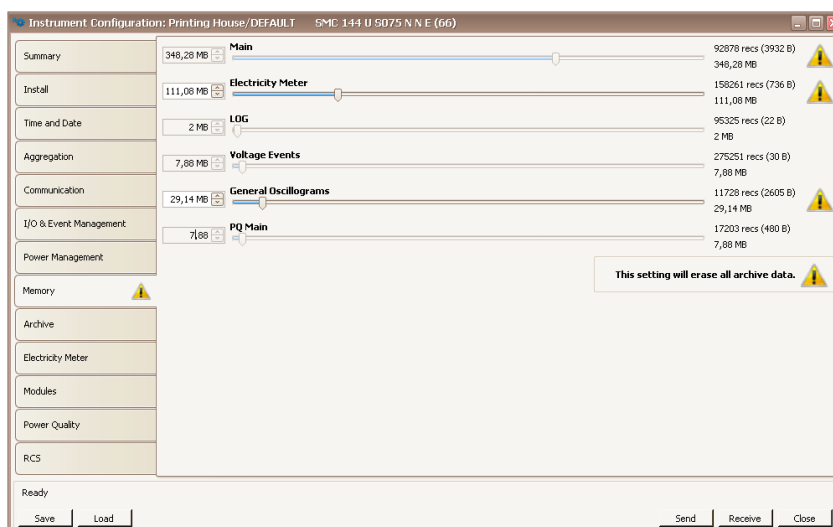

Figure 21: ENVIS.Daq - memory partitioning for each separate archive/data type.
2.5.6 Memory Assignments (fig. 21)